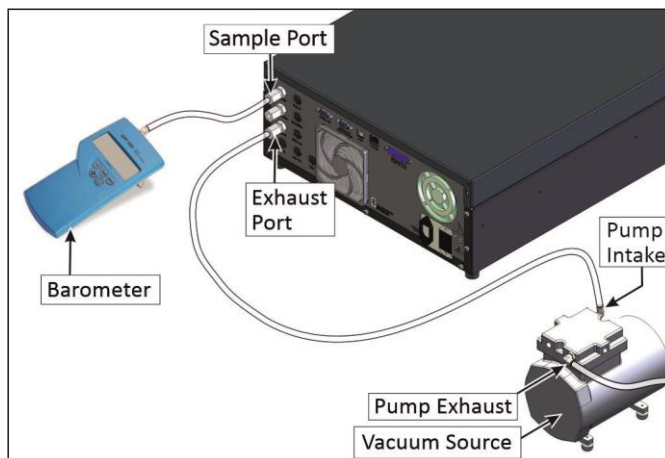

Figure 102 – Full Pressure Calibration Set-up (Vacuum)
5. Connect a barometer to the **Sample Port** (refer to Figure 102).